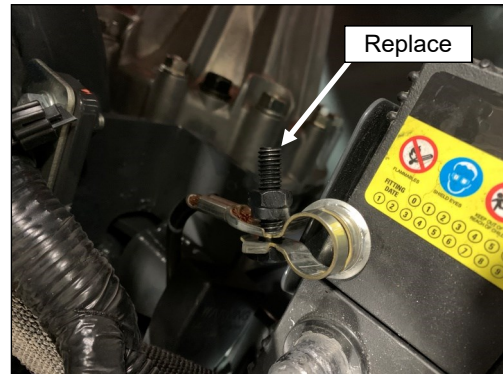

Fig. 1.3 (Replace Negative Battery Bolt)
- 1.3 See fig. 1.3. Remove the bolt from the battery clamp and replace with a longer one from the supplied hardware kit and re-use the nut, but do not re-connect the battery.